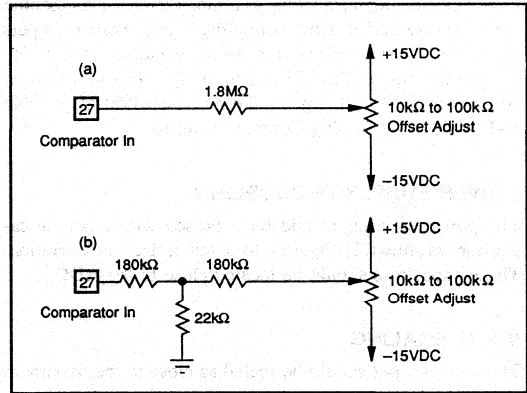

FIGURE 6. Two Methods of Connecting Optional Offset Adjust with a 0.4% of FSR of Adjustment.
Initial Gain and Offset errors are factory-trimmed to typically ±0.1% of FSR (typically ±0.05% for unipolar offset) at 25°C. These errors may be trimmed to zero by connecting external trim potentiometers as shown in Figures 6 and 7.
Gain and Offset errors may be trimmed to zero using external gain and offset trim potentiometers connected to the ADC as shown in Figure 6 and 7. Multiturn potentiometers with 100ppm/°C or better TCRs are recommended for minimum drift over temperature and time. These pots may be any value from 10kΩ to 100kΩ. All resistors should be 20% carbon or better. Pin 29 (Gain Adjust) and Pin 27 (Offset Adjust) may be left open if no external adjustment is required.
**OFFSET** — Connect the Offset potentiometer (make sure  $R_1$  is as close to pin 27 as possible) as shown in Figure 6. Sweep the input through the end point transition voltage that should cause an output transition to all bits Off ( $E_{IN}$ ).